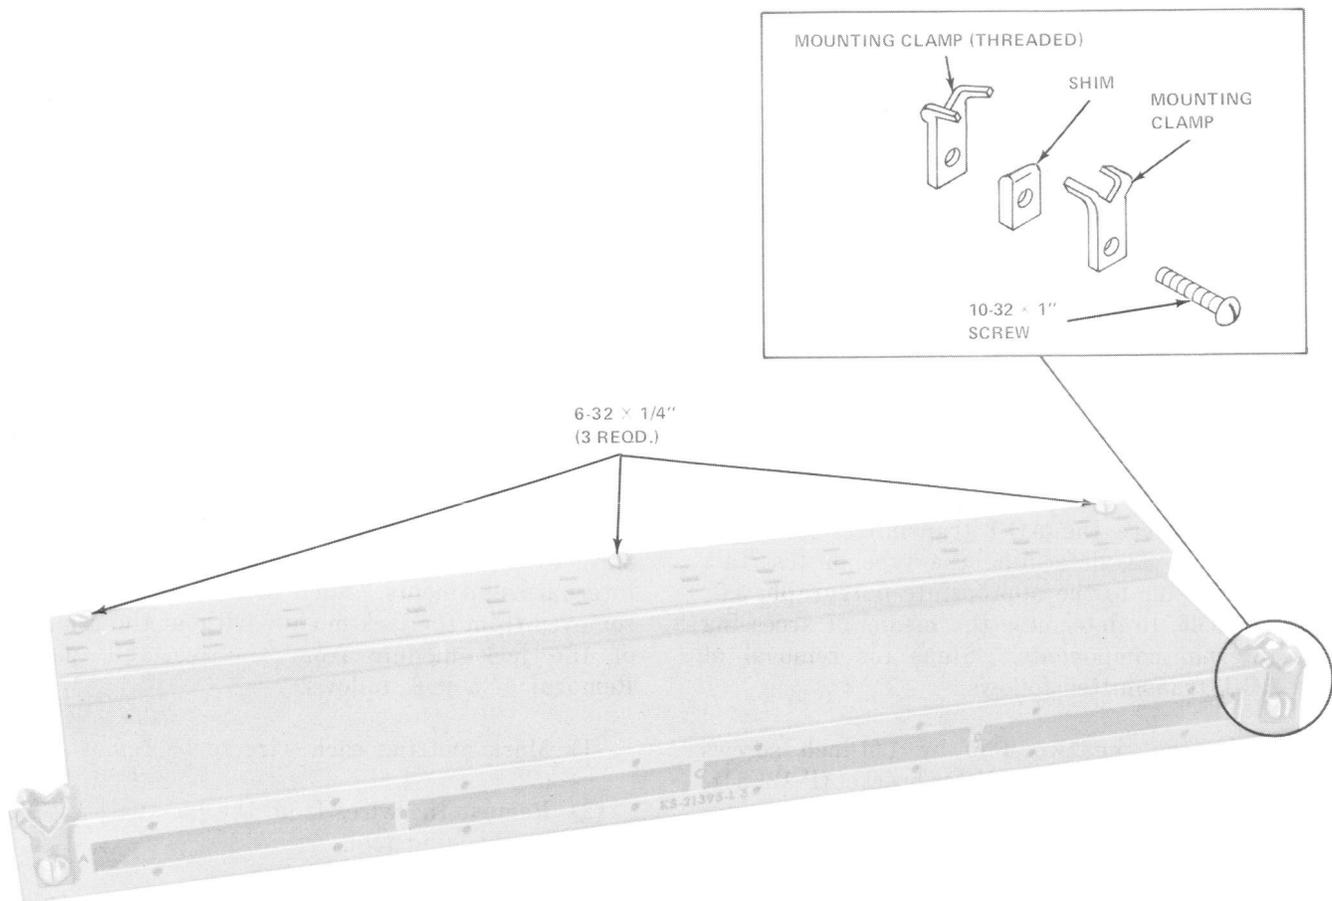
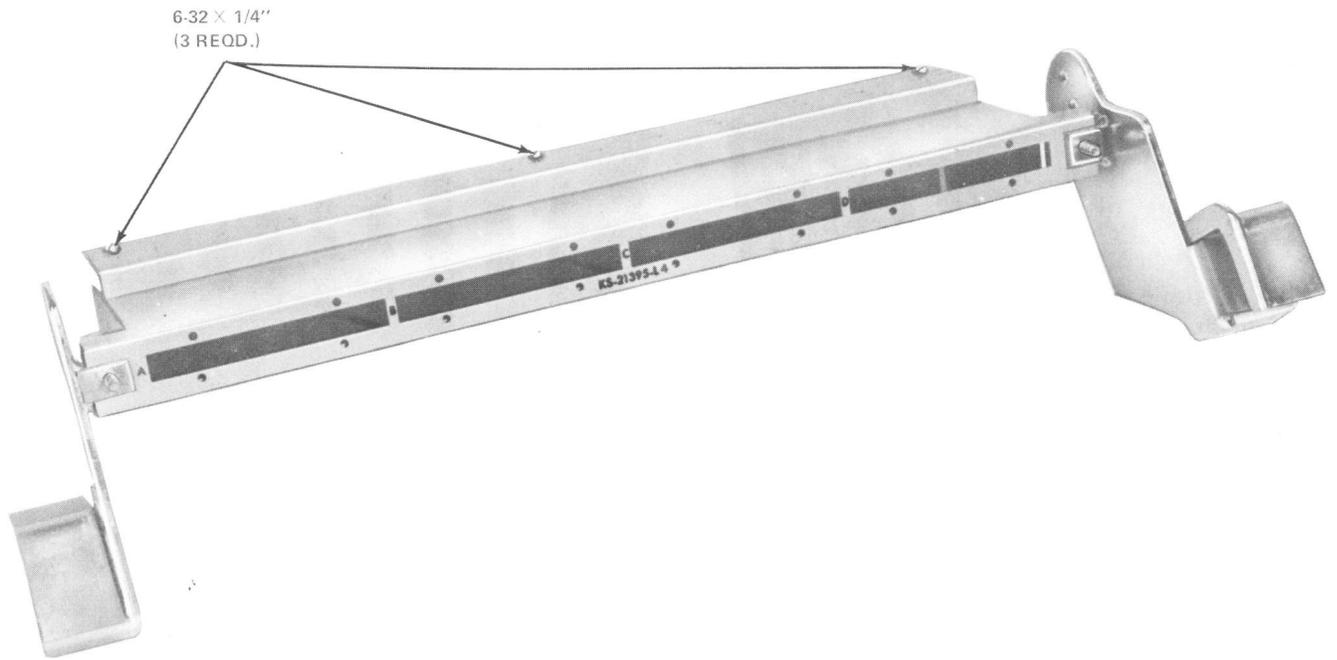
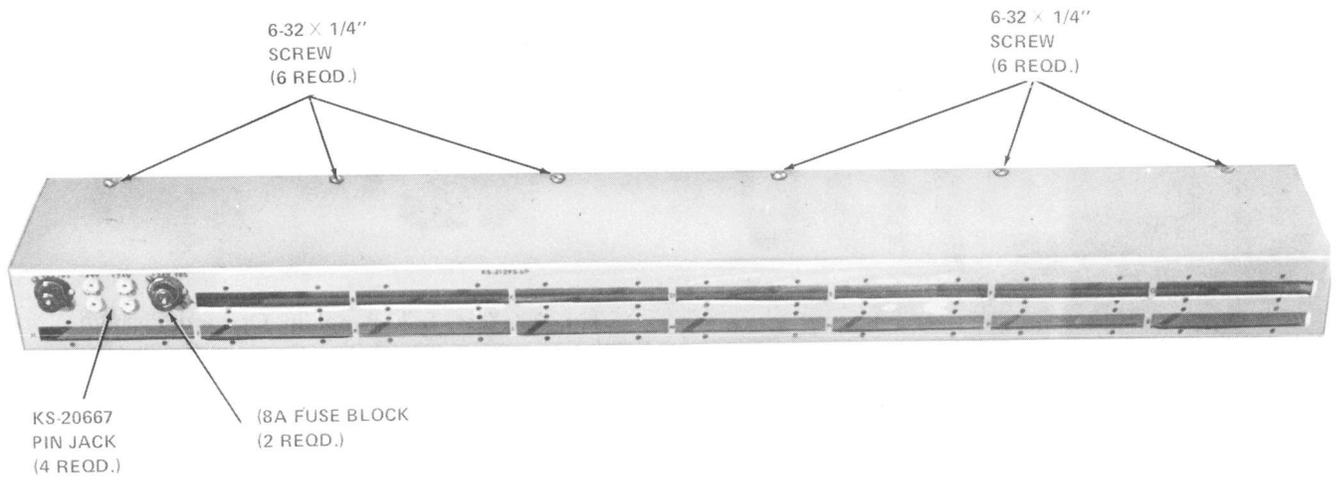

Fig. 1—KS-21395-L3; ED-6C110-10, G63 Test/Talk Panel for 336-type Terminal Strip Mounting
Fig. 2—KS-21395-L4; ED-6C110-10, G64 Test/Talk Panel for Guard Rail Mounting
Fig. 3—KS-21395-L5; ED-6C110-10, G65 Test/Talk Panel for Guard Rail Mounting
3.02 The test/talk panels for the existing conventional distributing frame are ED-6C110-10, G63, G64 and G65. Figure 1 shows the G63 and Figure 2 shows the G64 panel. The only difference between these two panels is the mounting arrangement. Figures 1 and 2 show the different ways to mount the panel. Figure 3 shows the G65 panel. Access to the internal components of the test/talk panels is given in the following steps:
- (1) Remove the 6-32 X 1/4-inch mounting screws in the test/talk panel shown in either Figures 1, 2, or 3.